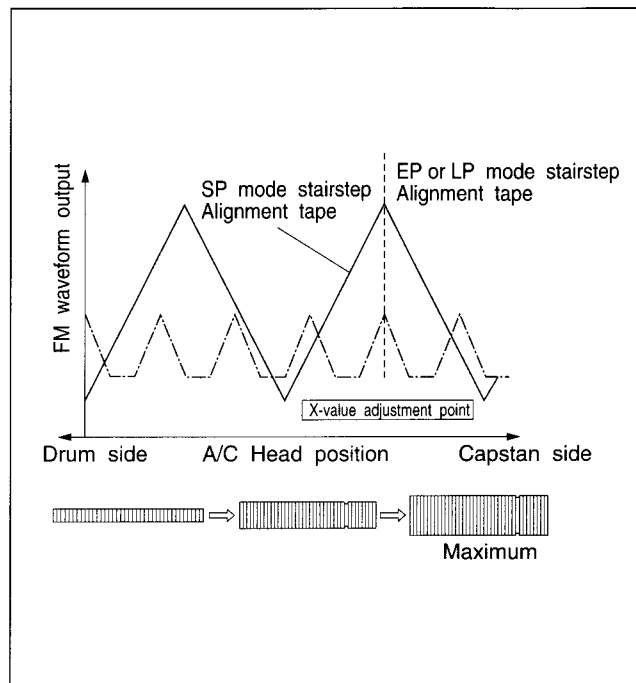

Fig. 1-7-7
- (6) Turn the tool first to position the A/C head fully toward the capstan. Then gradually return it toward the drum and stop at the position of maximum FM waveform output level as shown in Fig. 1-7-7.
- (7) Tighten screw (5). Remove the tool and tighten screw (4).
- (8) Eject the SP alignment tape [MHP, MHPE] and then re-insert the EP or LP alignment tape [MHP-L, MHPE-L].
- (9) Playback the EP or LP stairstep portion of the alignment tape [MHP-L, MHPE-L].
- (10) Set the neutral manual tracking position by pressing the **///** button on the remote controller or TV PROG "-" and "+" buttons simultaneously.
- (11) Confirm maximum playback FM waveform output level as shown in Fig. 1-7-7.
- (12) If not maximum, slightly loosen the screws (4) and (5). Use the tool and adjust the head position for the nearest maximum point. Then tighten screws (4) and (5).